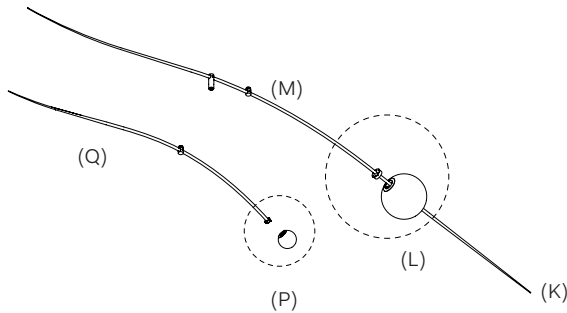
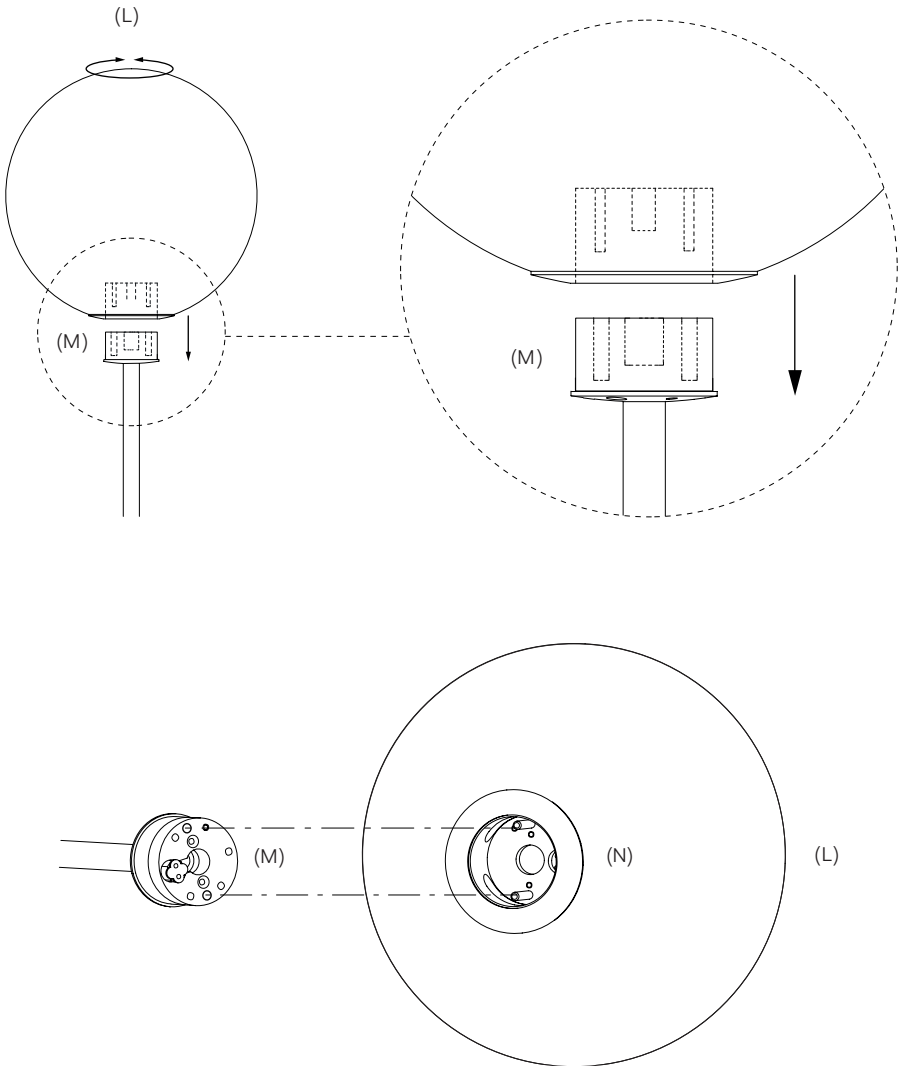

Fig. 13
Fig. 14
Secure the Large Glass Sphere 1 (L) with the supplied M2×20 screw and hex key, ensuring it is tight to keep the connectors flush. See Fig.13 and Fig.14